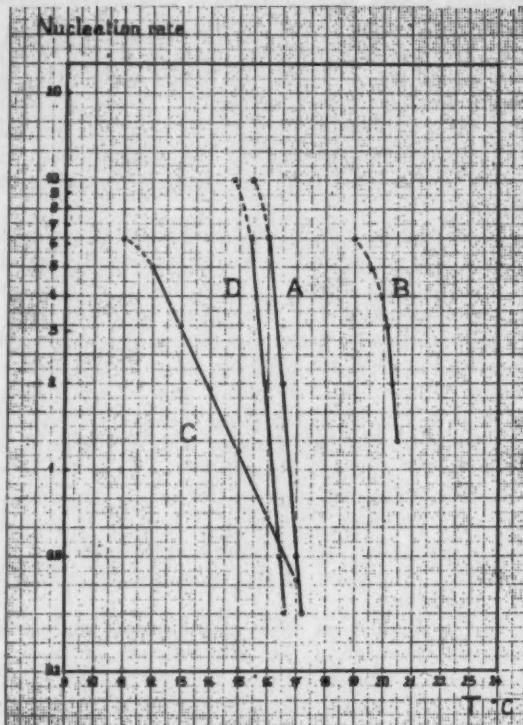

Fig. 19. γ -nucleation formation velocities. (A) Cacao butter (B) Borneo tallow (C) Butterfat (D) Cacao butter with 15% butterfat.
function of the temperature. When plotted logarithmically, this becomes a straight line such as we found already for the β -form. Fig. 19 represents the lines for samples of cacao butter (A) Borneo tallow (B) butterfat (C) and a mixture of 85% cacao butter with 15% butterfat (D). The curvature of the upper part is probably due to the fact that the heat transfer rate is not infinite. The lower limit results from interference by β' -crystals.